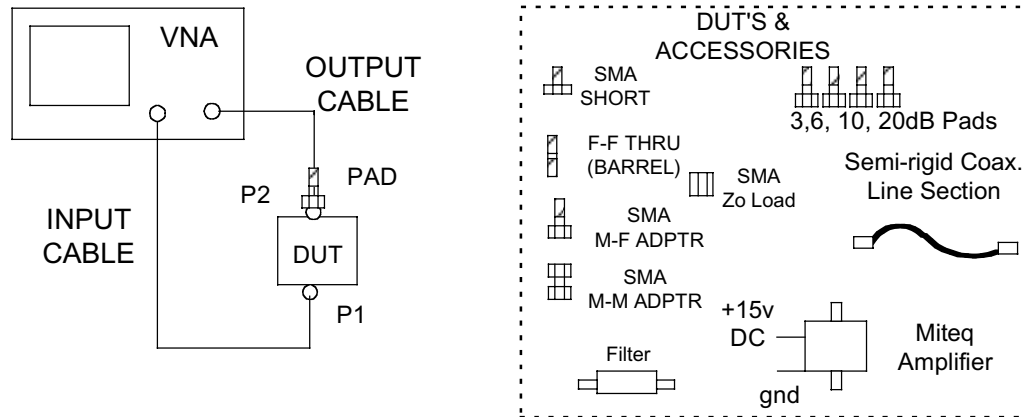

Figure 1. General Equipment configuration for measurement. For reflection measurements, P2 will not always be connected.
- A. **SMA Female short circuit:** Connect the female short circuit to the test port, P1 (Fig. 1). [Note: P2 will not be connected]. Push Ch1 => Reflection. Set format to Smith Chart (Format => Smith Chart) and view the Smith Chart. Turn on a marker and set it with the knob or key pad to correspond to 3GHz. The trace should start at the short circuit position and travel along the edge of the Smith chart in a clockwise direction. With the marker on 3GHz, record the value of the reactive part of the impedance displayed as a marker read out below. Another number is shown in units of pH. Record this value as well. Switch the format to Phase, and with the marker still set at 3GHz record the value of the reflection phase. **If the reflection phase is not approximately 150 degrees, or if the magnitude in Smith Chart format does not trace along the edge of the chart ask for assistance before proceeding.** Switch the format to log mag and change the scale to clearly view the residual measurement ripple in the magnitude. It should be less than +/- 0.2dB. If it is not, try turning averaging on (AVERAGE menu) and re-calibrate (with TA assistance).
- E. Output cable: Connect P1 to P2 directly (without the pad shown in Figure 1). View the result on SWR format and then switch the results to log-magnitude and then Smith Chart to make the observations indicated below.
- F. Output cable with 6dB pad: Connect a 6dB attenuator (pad) between P1 and P2 as shown in Figure 1 (pad is DUT). View the result on SWR format and then switch the results to log-magnitude and then Smith Chart to make the observations indicated below.
- C. Transmission measurement of F-M adapter: Connect the F-M as the DUT (Fig.1), and make the following observations. Switch formats as appropriate, keeping measurement as Ch2 - transmission at all times, and leaving Ch1 - off, to avoid confusion.
- D. Transmission measurement of semi-rigid cable. Connect the S-R cable as the DUT (Fig.1), and make the following observations. Switch formats as appropriate, keeping measurement as transmission on Ch2 at all times. (You may need to use one or 2 f-f adapters to make the connections)
- E. Transmission measurement of attenuators (pads): Connect the 3dB pad as the DUT (Fig.1). Use markers and appropriate format and scale settings to obtain the data indicated in the table below. Repeat for the 20dB pad. **[Hint: You can turn on several markers at once and set them to the desired frequencies where numeric data is desired.]**